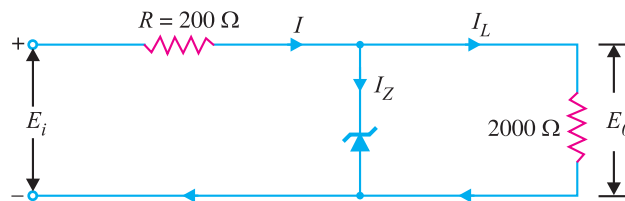

Fig. 6.68
**Example 6.32.** Over what range of input voltage will the zener circuit shown in Fig. 6.68 maintain 30 V across 2000  $\Omega$  load, assuming that series resistance  $R = 200\ \Omega$  and zener current rating is 25 mA ?